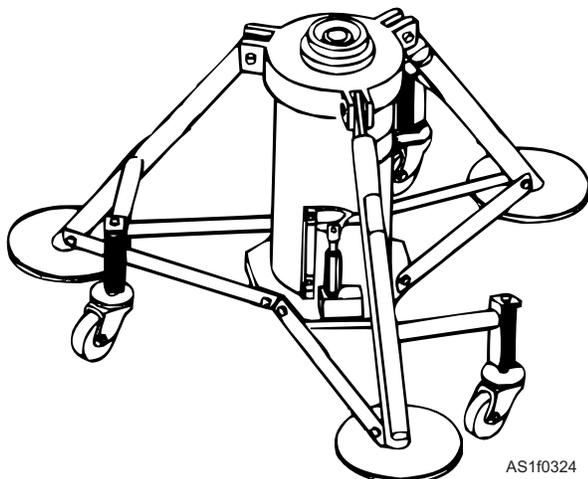

Figure 1-26.—Fixed height tripod jack.
**TRIPOD JACKS.**—Tripod jacks are primarily used for lifting the entire aircraft off the ground or deck. There are two types of tripod jacks, variable height (fig. 1-25) and fixed height (fig. 1-26). Designation for a T20-1VH5 is as follows: